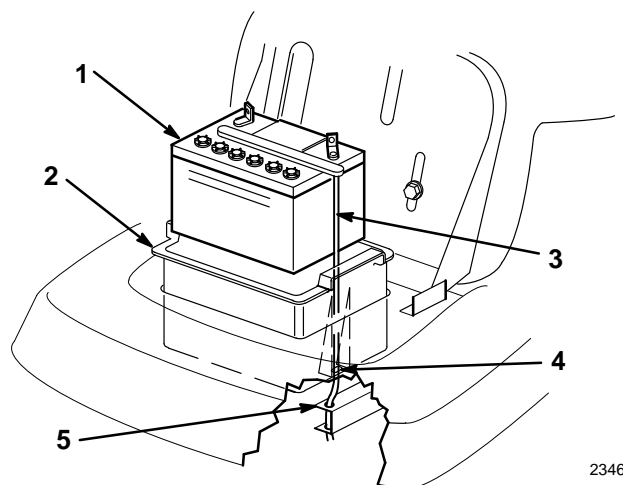

Figure 30
5. Remove the battery box, battery, and long vent tube from the chassis (Fig. 30).
1. Put the battery into the battery box and slide the vent tube into the channel and through the slot in the bottom of the box (Fig. 30).
IMPORTANT: Look down into the cut out area where the battery box fits into the chassis. Notice the holes at the end of the right frame member (Fig. 30). Always install the long battery vent tube through the holes to prevent battery acid from corroding the tractor and mower.
2. Install the battery box and battery into the chassis (Fig. 30). Make sure to slide the end of the vent tube through the holes in the frame (Fig. 30).